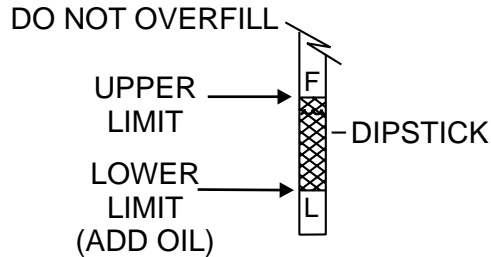

Figure 40. Dipstick Engine Oil Level
3. Determine if engine oil is low. Oil level should be between the upper and lower limit (Figure 40) on the dipstick.